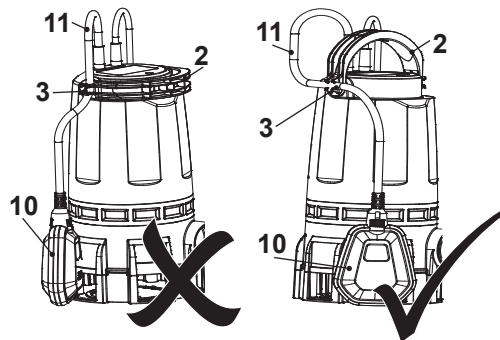

Fig. 6
1. Adjust the height of the relative switch on and off levels within certain parameters by lengthening or shortening the free cable length of the float switch cable (11).
2. Lift the carry handle (2) firstly, then fix the float switch cable (11) to either of the cable clip (3) afterwards (Fig. 6).